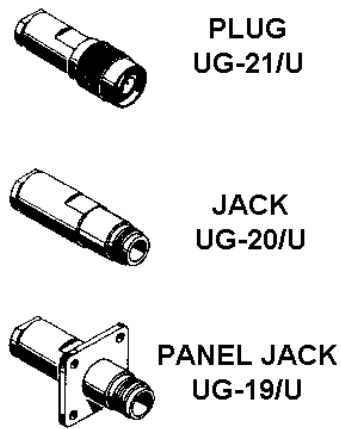

Figure 1-29.—Typical N connectors.
**N** series connectors are low-voltage, 50-ohm, threaded coupling connectors designed for use with small and medium size rf cable. They have a 1,000 volts peak rating and are weatherproof. There is a group of **N** series connectors that are 70 ohms and are numbered **UG-98A/U** and **UG-96A/U**. These 70-ohm **N** connectors are designed for cables such as **RG-61C**, **RG-11/U**, and **RG-13/U**. The 70-ohm connectors will not mate with 50-ohm connectors of this series. Figure 1-29 shows three typical **N** series connectors. Figure 1-30 illustrates the method used to attach **N** connectors to coaxial cable. Table 1-16 shows which **N** connector to use with what rf cable type.